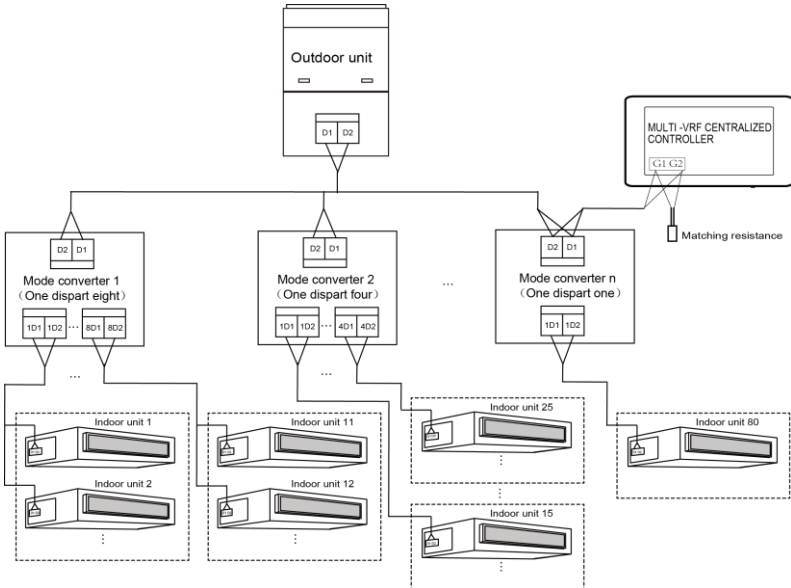

Fig. 1.6 Centralized Controller Connected with Heat Recollection Mode Converter Network
e. If the centralized controller is to be connected with the network of heat recollection, connect according to Fig. 1.6. The method 2 is also applicable to centralized controller switching in heat recollection network.